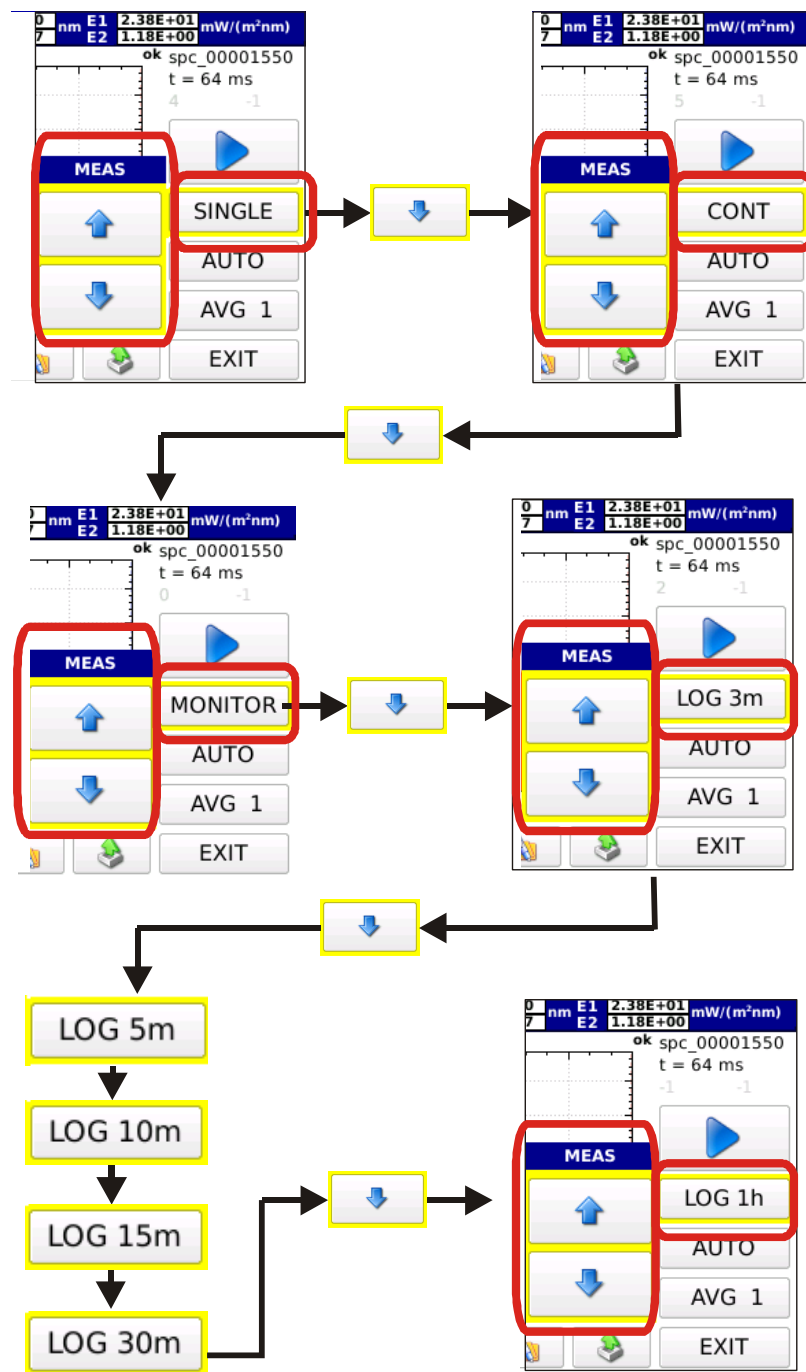

Figure 3.5: Select the operating mode using the arrow keys.
3.1.1. Select the operating mode of the instrument among the available four modes (SINGLE, CONTINUE, MONITOR, LOGGING). By pressing the **SINGLE** button two arrow sliders are displayed; by pressing the  button the operating mode changes as shown on figure 3.5.